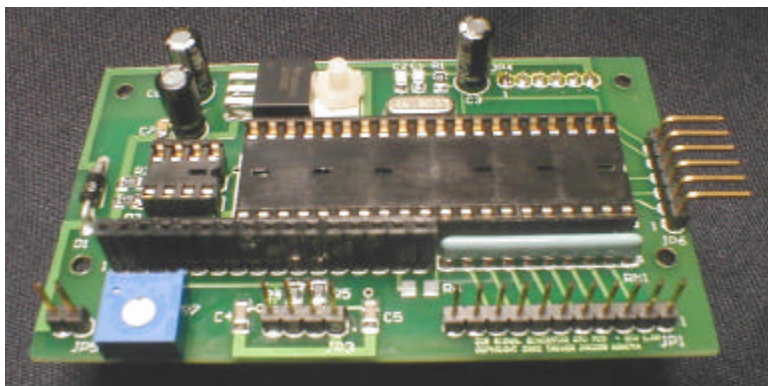
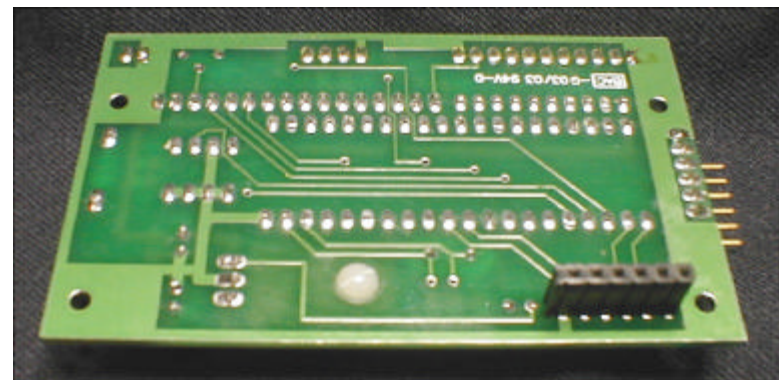

Figure 5. Top view of CPU board after sockets and connectors have been installed. (R6 still missing - an error)
Figure 6. Bottom view of CPU board showing JP4 installed.
Page 3 Figures 5 and 6 at the bottom of the page
Figure 5 and Figure 6 are incorrect and their positions should be swapped to conform to the captions.
Install the following (See Figure 5)
- [] JP4 6-pin single in-line **female** header connector, install on **BOTTOM** of board (See Figure 6)